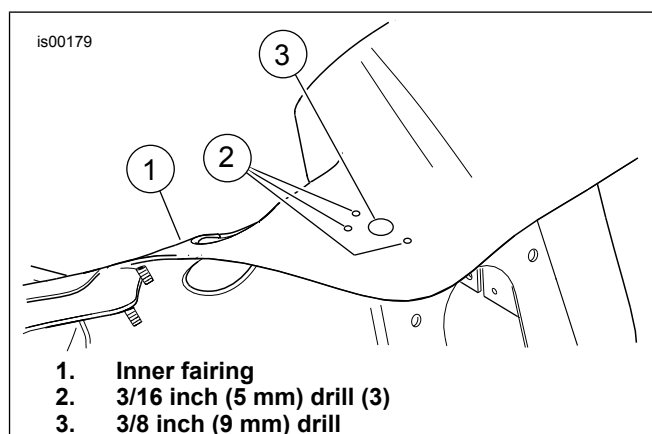

Figure 2. Hot Shoe Mounting Holes
11. See Figure 2. Drill a 3/16 (5 mm) hole at each of the three pilot holes indicated on the template. Drill a 3/8 in. (9 mm) diameter hole at the remaining pilot hole as shown on the template. Remove the template.